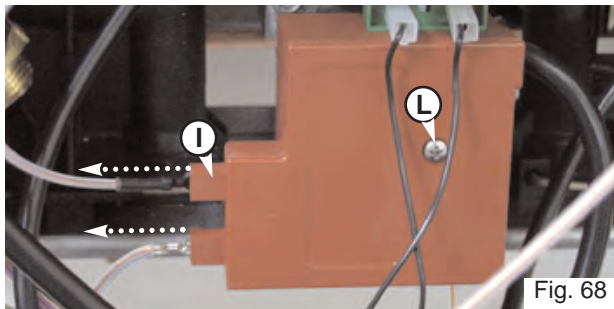

Fig. 68
2. Disconnect ignition leads "I" by pulling left (see Fig. 68);
4. Remove the screw "L" on the spark generator (see Fig. 68);